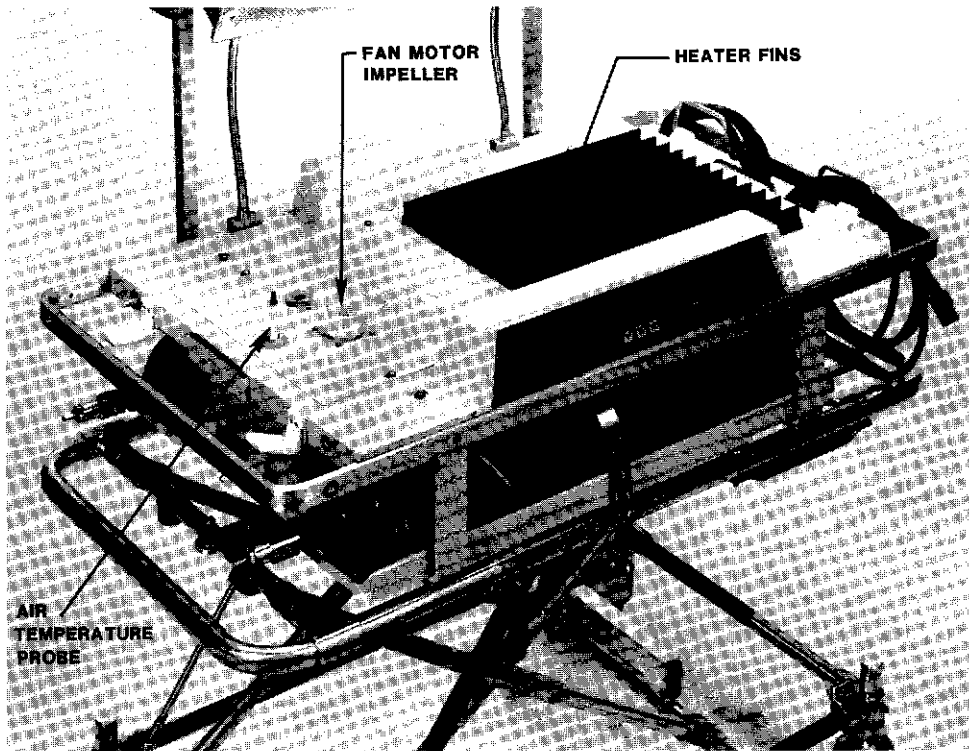

FIGURE 4.3 LOWER SHELL
2. RELEASE AND PULL BACK THE FOUR SHELL LATCHES at the head and foot end of the Incubator (Figure 4.3).
1. REMOVE ANY LINT from the heater fins, fan motor impeller, and air temperature probe (Figure 4.3.).
1. ALIGN THE AIR TEMPERATURE PROBE with the hole on the upper shell. Secure the latches at the head and foot ends of the unit (Figure 4.3). Make sure impeller is approximately 1.6mm (1/16") from cover and rotates freely.